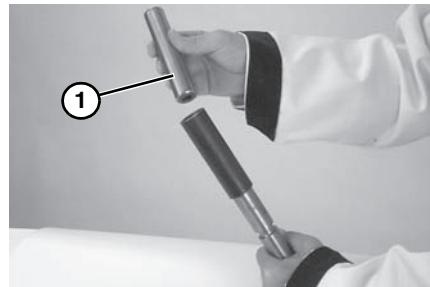

Figure 45
5. Place open end of pusher (**Figure 45, item 1**) into sleeve.